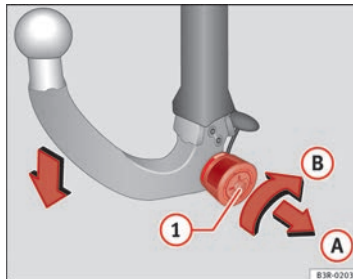
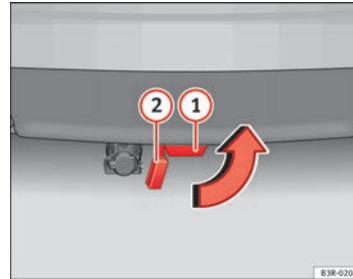

Fig. 173 Removable towing bracket: Removing the ball joint
Fig. 174 Rear bumper: fitting the cover piece
- Insert the key in the lock ① ⇒ Fig. 173 on the knob.
- Take hold of the ball joint and pull out the knob in direction ①.
- Keep hold of the knob and turn it as far as it will go in direction ②.
- Pull the ball joint down out of the mounting fixture ① ⇒ Fig. 174. The cover piece will cover the mounting fixture automatically ②.